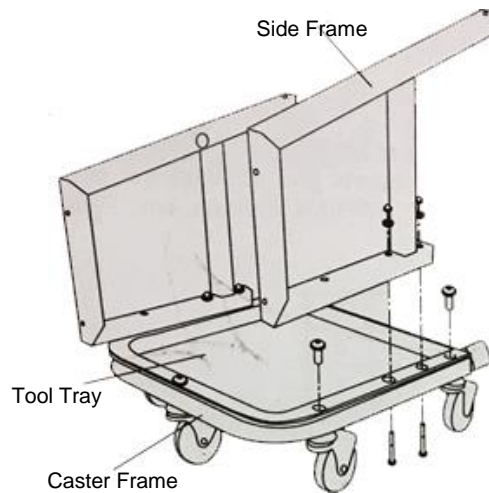

Figure 2- Assembling tool tray and casters
2. Assemble tool tray and five casters to caster frame using Allen head binding barrels. Then attach two creeper side frames to caster frame with two M8 x 60 hex head bolts, two washers and two acorn nuts each (Fig 2).